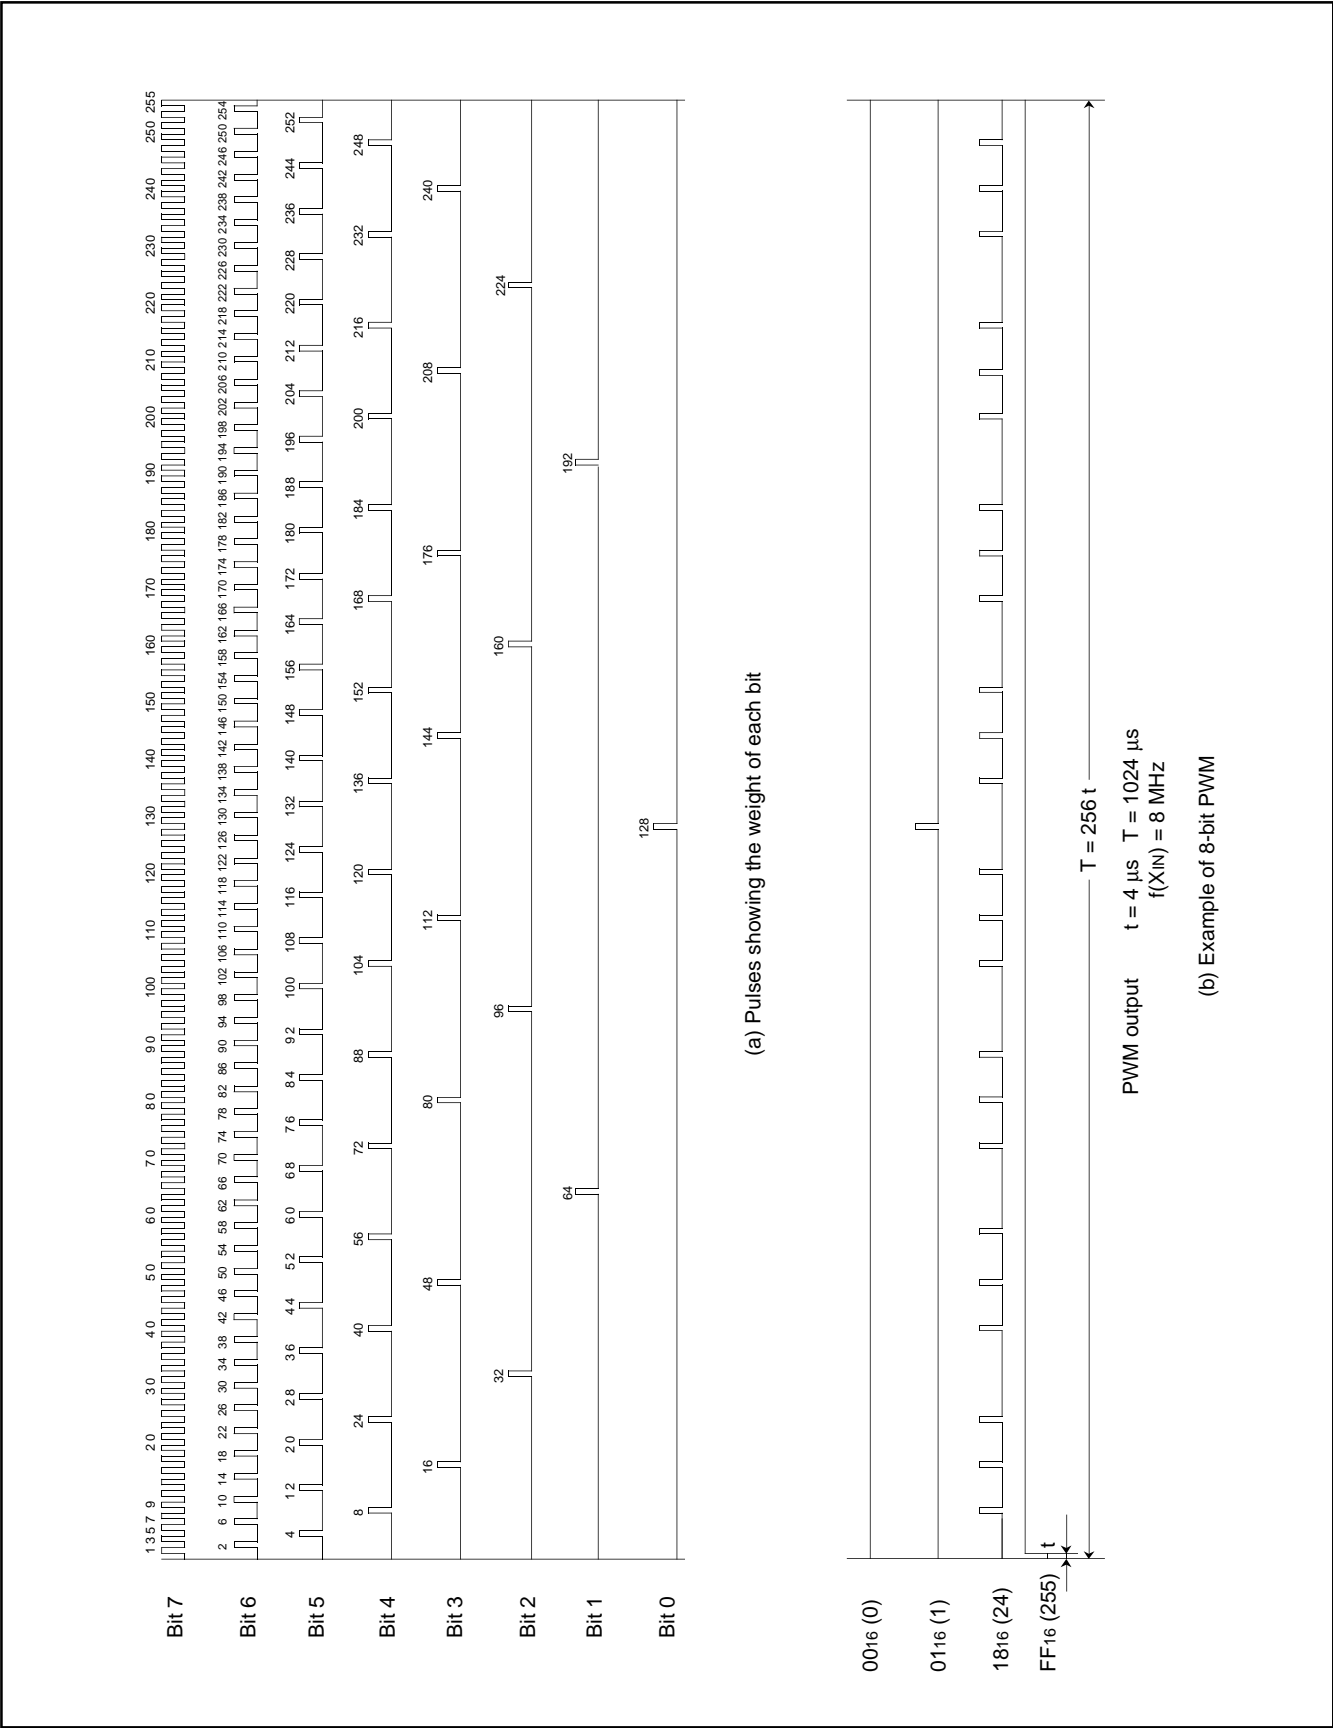

Fig. 8.7.2 PWM Timing
Figure 8.7.2 shows the 8-bit PWM timing. One cycle (T) is composed of 256 ( $2^8$ ) segments. 8 kinds of pulses, relative to the weight of each bit (bits 0 to 7), are output inside the circuit during 1 cycle. Refer to Figure 8.7.2 (a). The 8-bit PWM outputs a waveform which is the logical sum (OR) of pulses corresponding to the contents of bits 0 to 7 of the 8-bit PWM register. Several examples are shown in Figure 8.7.2 (b). 256 kinds of output (HIGH area: 0/256 to 255/256) are selected by changing the contents of the PWM register. An entirely HIGH selection cannot be output, i.e. 256/256.